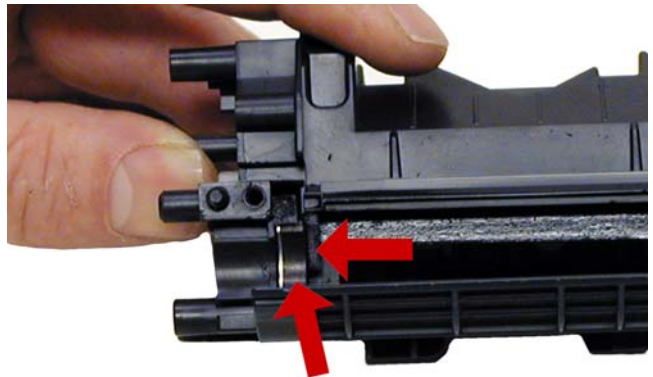

Figure 24
18) Clean out all the remaining toner from the hopper. Make sure the magnetic roller seals and the doctor blade seals are all clean. See **Figure 24**